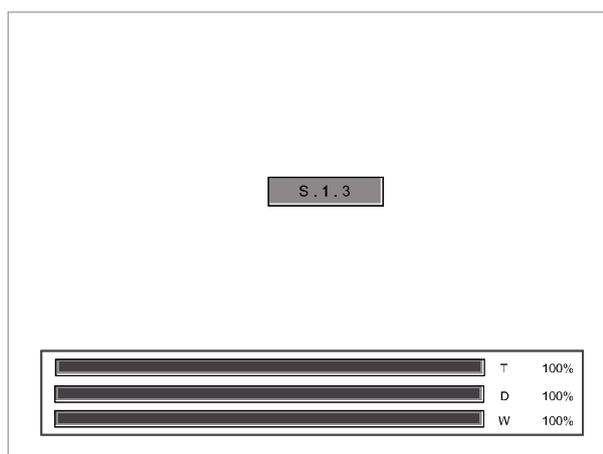

Figure 14. Firmware downloading display
9. When three bars are filled, the completion code will be displayed in the box located on the center of the screen as shown Figure 14. Refer to Table 15.